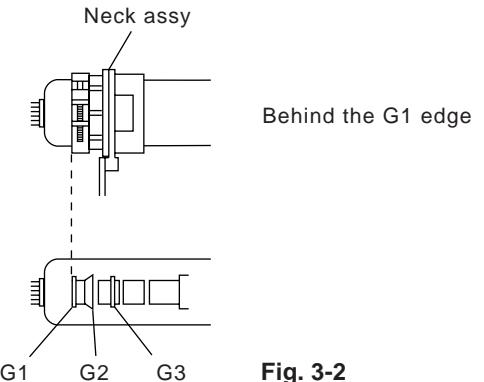

Fig. 3-2
- Position neck ass'y as shown in Fig3-2.